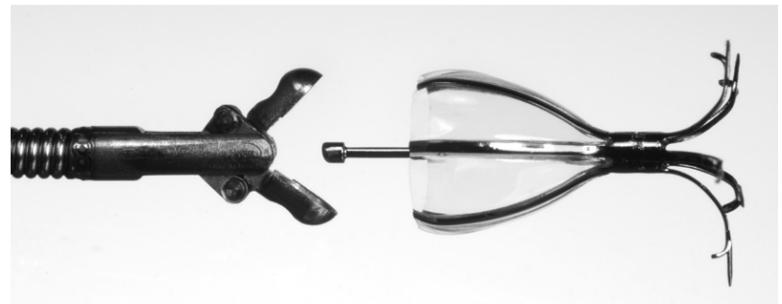

Figure 5: Spiration Valve Removal with Forceps
2. Grasp the removal rod shaft or removal rod tip with the appropriate forceps and gently pull the valve until it is dislodged from the airway wall. Use care to make sure that the removal rod does not get caught in the fenestration of the forceps when removing the valve (see Figure 5).